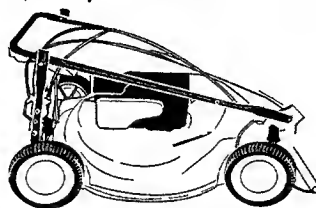

FIGURE 18
- You can fold your mower's handle for convenient storage as shown in Figure 18.